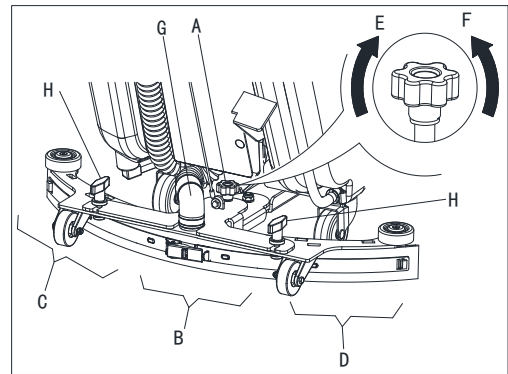

Figure 5
1. Install the squeegee and screw up the nut (H), then connect the vacuum hose (G) to the squeegee.
2. Adjust the squeegee by squeegee adjusting handle (A, Figure 5).
- a) If there is gap between the ground and middle section of rear squeegee blade (B), adjust the knob (A) in counterclockwise direction (F) until all section of rear squeegee blade good contact with ground, the front blade touch the ground slightly.
- b) If there is gap between the ground and both end section of rear blade (C and D), adjust the knob (A) in clockwise direction (E) until all section of rear blade good contact with the ground, the front blade touch the ground slightly.